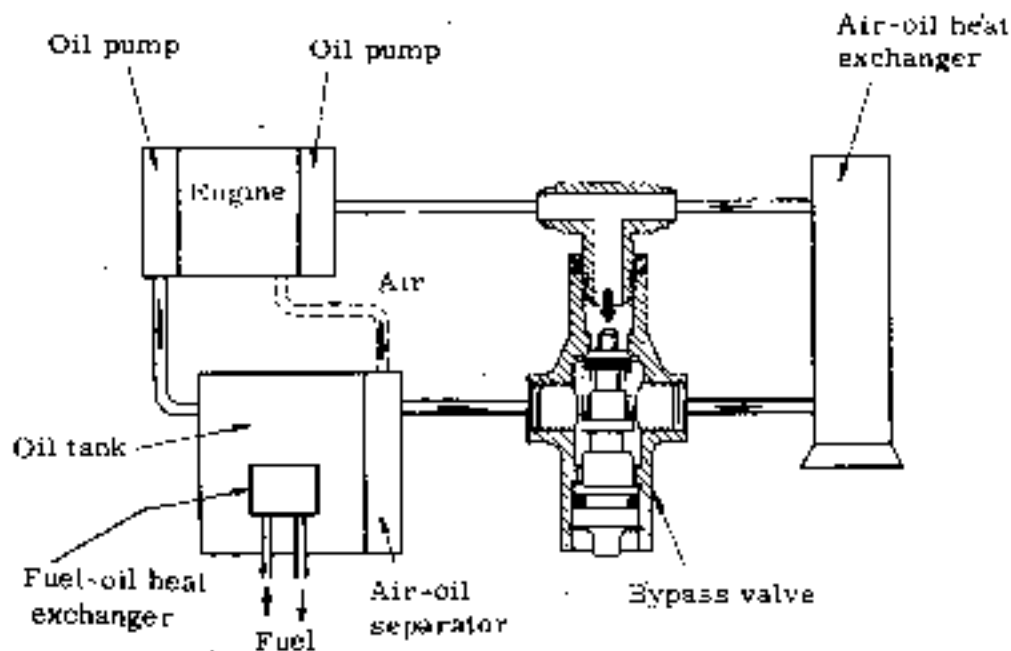

Fig. 6-5 Bypass valve
4.2 BYPASS VALVE (See Fig. 6-5)